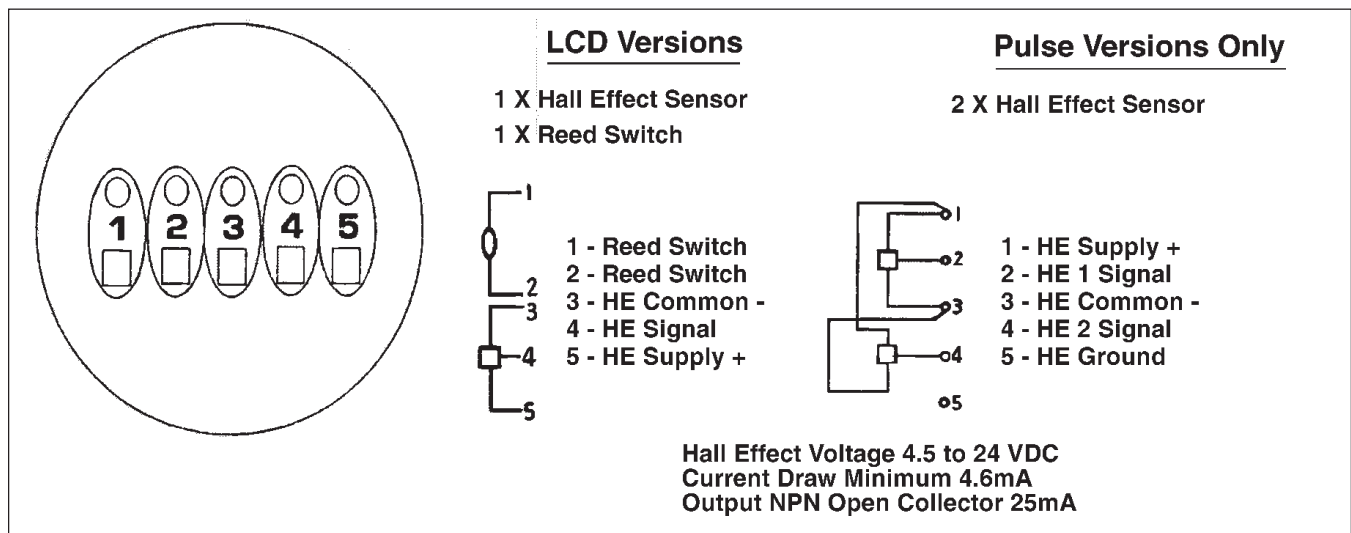

Figure 2-2 Hall Effect Sensor Connections
10. Refer to Figures 2-2, 2-3 or 2-4 for electrical connections.